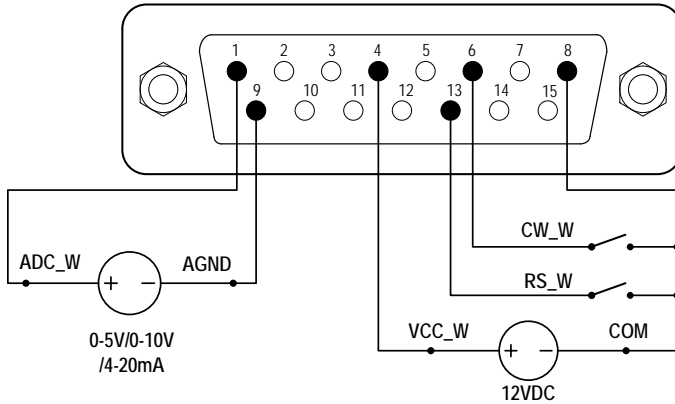
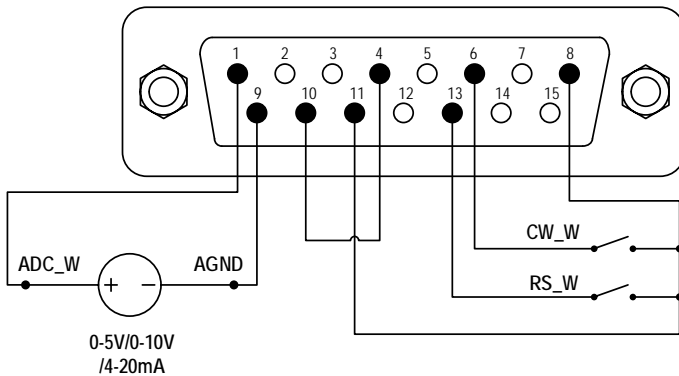

Figure 48. DB15 Wiring with External 12VDC Power Source
Figure 49. DB15 Wiring with Internal 12VDC Power Source
- 1) Switch the power off. Wire the DB15 connector as shown in Figure 48 or Figure 49, and connect it to the DB15 port on the rear of the pump.